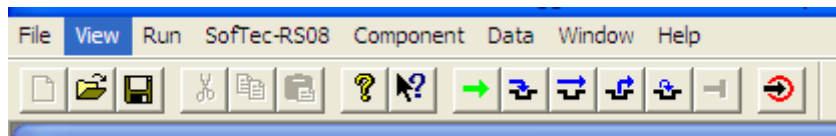

Figure 9. True Time Simulator Menu
5. Click on the green arrow to run the program. See Figure 9.